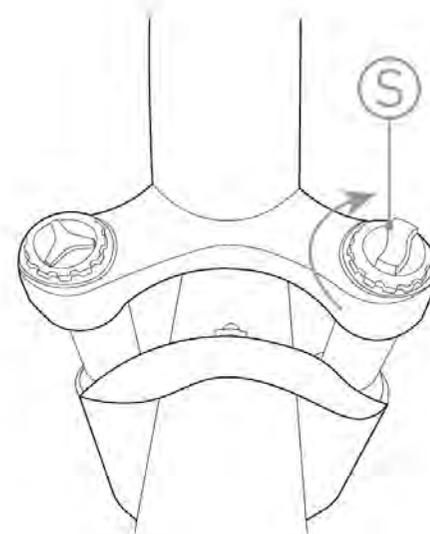

**FIG. 16**
- Rotate the brake lever using the tightening screw (Ref. U - Figure 16) until reaching a comfortable hand position.
- Vary the stroke of the brake lever by acting on the adjuster (Ref. T - Figure 16).